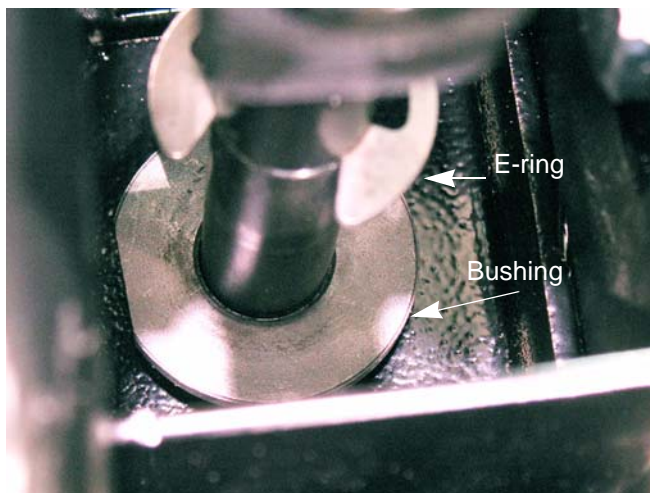

Figure 6.106
7. Tap the bushing in place using the E-ring on the steering shaft. See Figure 6.106.